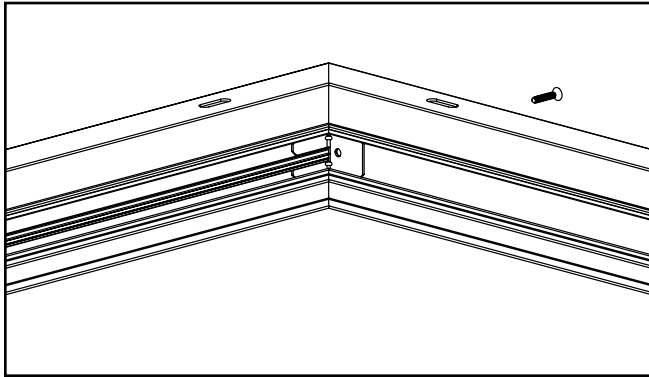

Figure 12.
- Use included screw to fasten frame pieces together to form a corner. (Figures 12 & 13.)